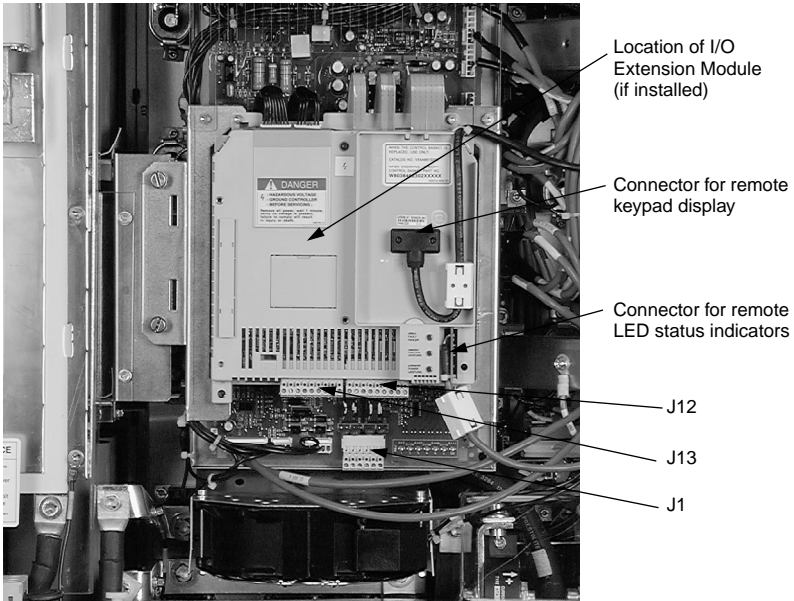

Figure 4.1.4: Location of J1, J12, and J13 Connectors
4. Using a flat blade screwdriver, loosen the terminal screws on the J1, J12, and J13 connectors (see Figure 4.1.4 on page 4.1.8). Pull the field wiring back out of the way.
5. Using a flat blade screwdriver, loosen the two screws and disconnect the connector for the cable to the remote keypad display (see Figure 4.1.4 on page 4.1.8). As needed, use wire cutters to remove any tie wraps.
6. Disconnect the connector for the cable to the remote LED status indicators (see Figure 4.1.4). As needed, use wire cutters to remove any tie wraps.
17. Install the connector for the remote LED status indicators. Use tie wraps, as needed, to remove any slack from the cable (see Figure 4.1.4 on page 4.1.8).
18. Install the connector for the remote keypad display. Using a flat blade screwdriver, tighten the two screws on the connector. Use tie wraps, as needed, to remove any slack from the cable (see Figure 4.1.4).